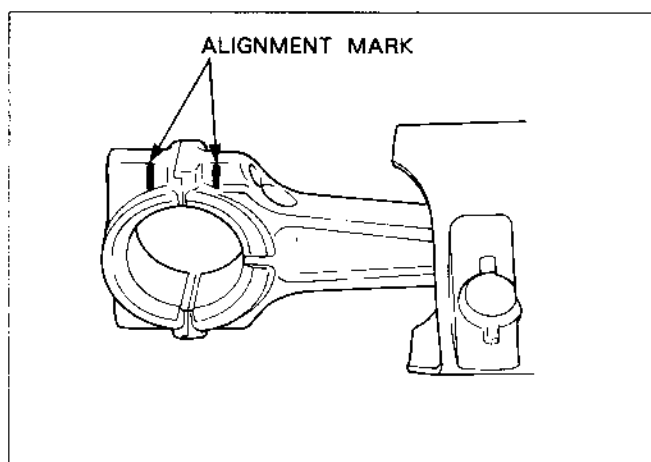

Fig. 49
- (1) Turn crankshaft to bottom dead center, lightly tap top of the piston until large end of the rod meet crank pin.
- (2) Install connecting rod cap and oil splasher to connecting rod matching alignment marks. (See Fig. 49.)